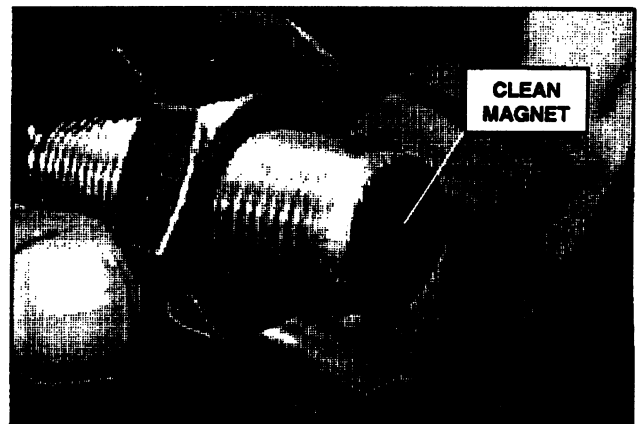

FIGURE 9.4
3. Clean Sensor with a clean, lint free cloth as metal particles may adhere to the magnet and cause loss of signal. See Figure 9.4.